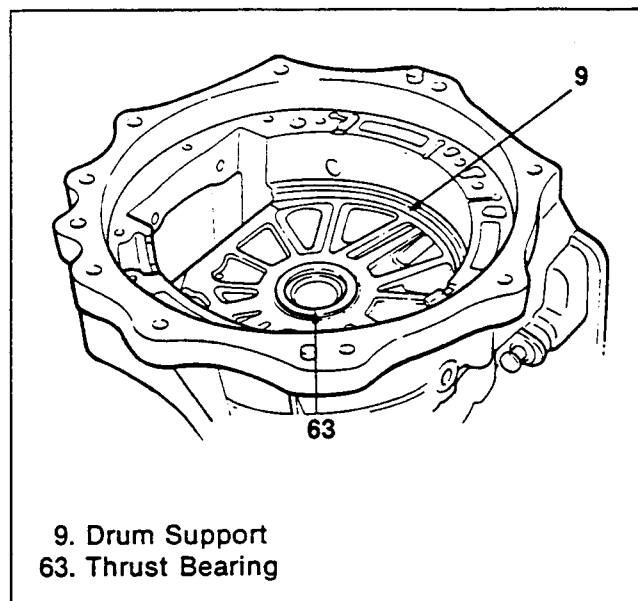

Figure 283. PTO Gear Installation (1)
Power Take-Off (PTO) Gear (Figures 283 and 284)
1. Apply Vaseline to the thrust bearing and install it into the drum support (figure 283).